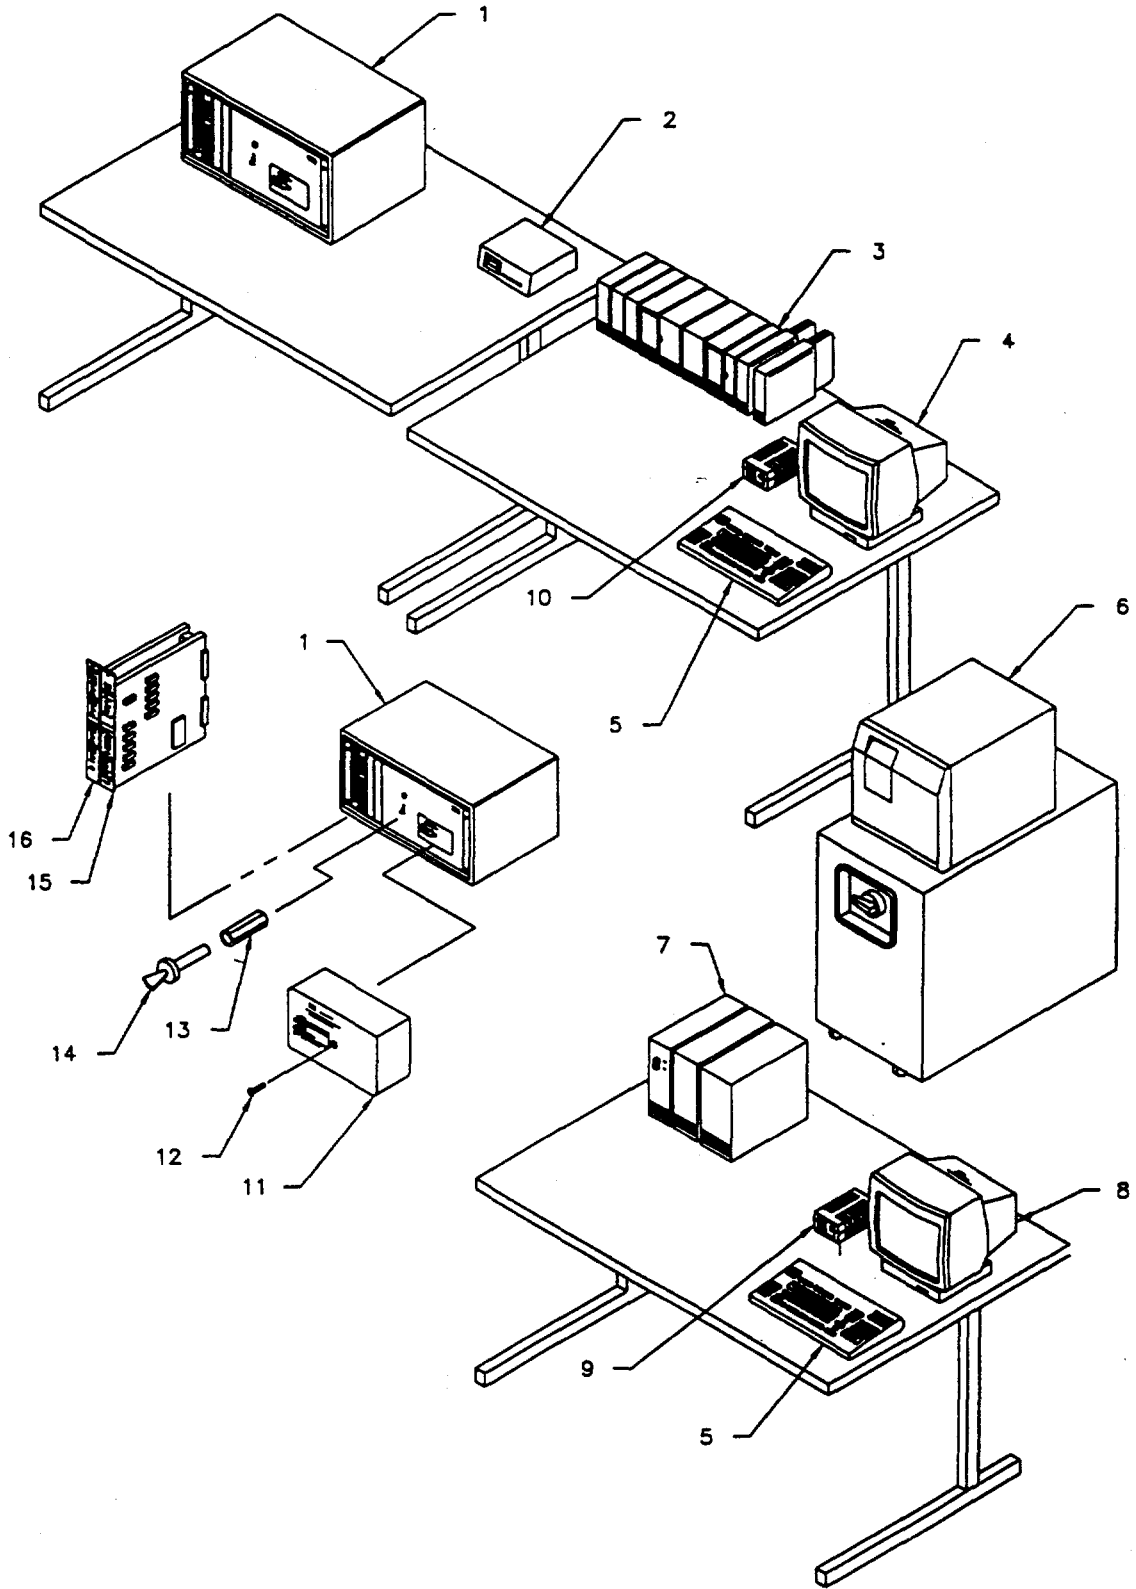

Figure 3-37. Replacement of Remote Status Monitor Master Station
**3-35. REPLACE RSM 9600 BAUD MODEM.** (See Figure 3-37).
- (1) Connect the RS232 cable to DTE connector and secure with two captive screws.
- (2) Connect the audio cable to telset leased line connector.
- (3) Connect the AC power cord to AC power source.
- (4) Turn the Modem (2) power switch to on.
- (5) Set up modem. (Ref. Appendix E, page E-57).
**3-36. REPLACE RSMA DES MODULE.** (Figure 3-37).